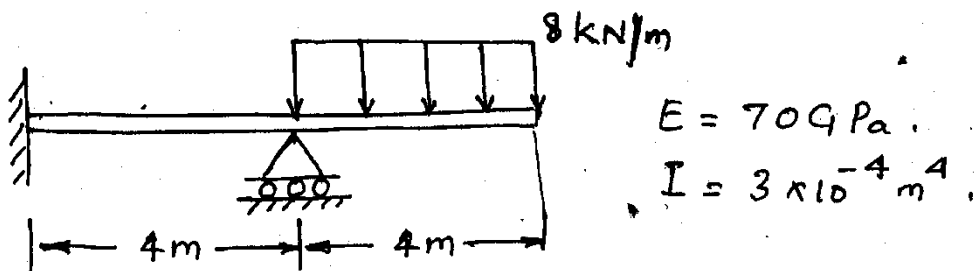

Fig. Q. 5b
- b) For the beam shown in Fig. Q. 5b, evaluate the unknown displacements and rotations. (06)